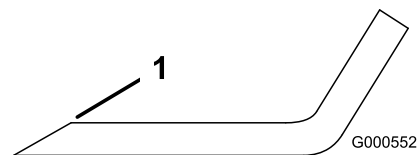

Figure 107
1. Use a file to sharpen the cutting edge at both ends of the blade (Figure 107).
Note: If the blade is not balanced, file some metal off the end of the sail area only (Figure 107).